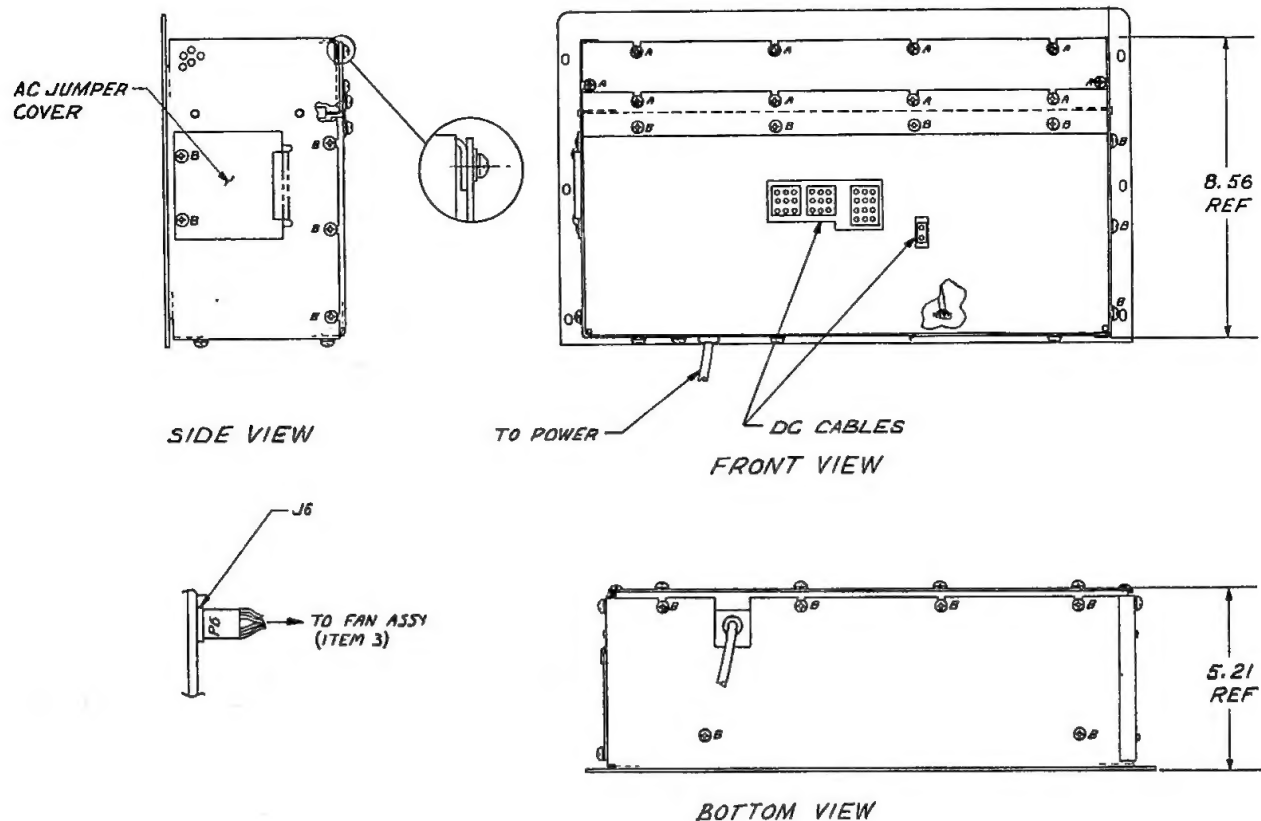

Figure 2-1. Power Supply Assembly Diagram
1. Detach all DC cables on front panel of power supply, see Figure 2-1.
- d. Remove power supply jumper cover, see Figure 2-1.